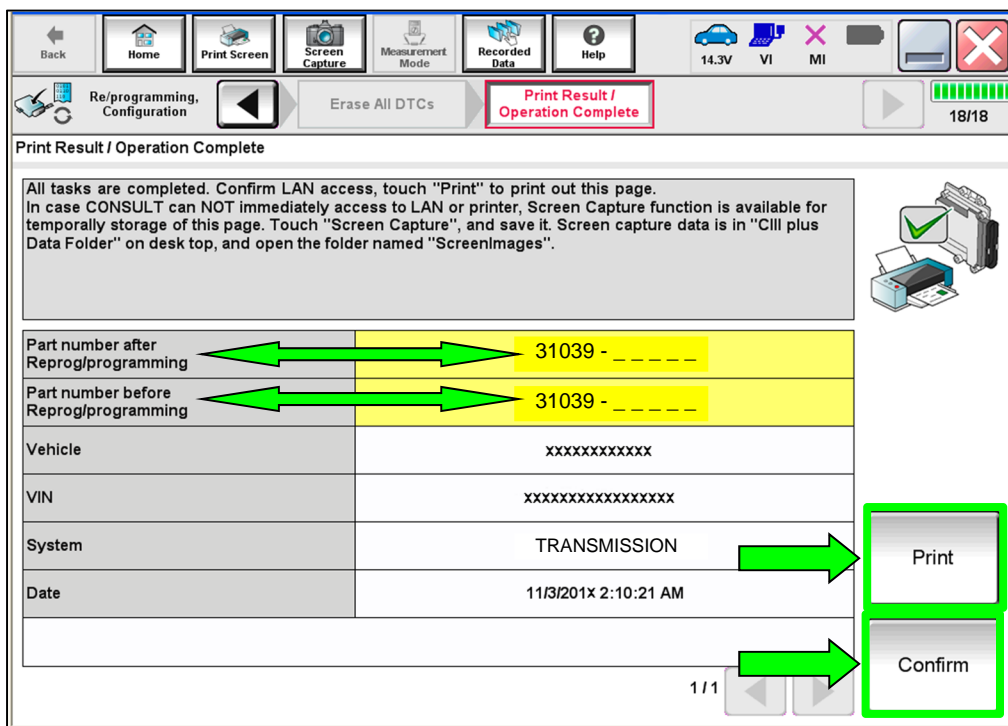

Figure 17
- When the entire reprogramming process is complete, the screen in Figure 17 will display.
22. Print a copy of this screen (Figure 17) and attach it to the repair order for warranty documentation.